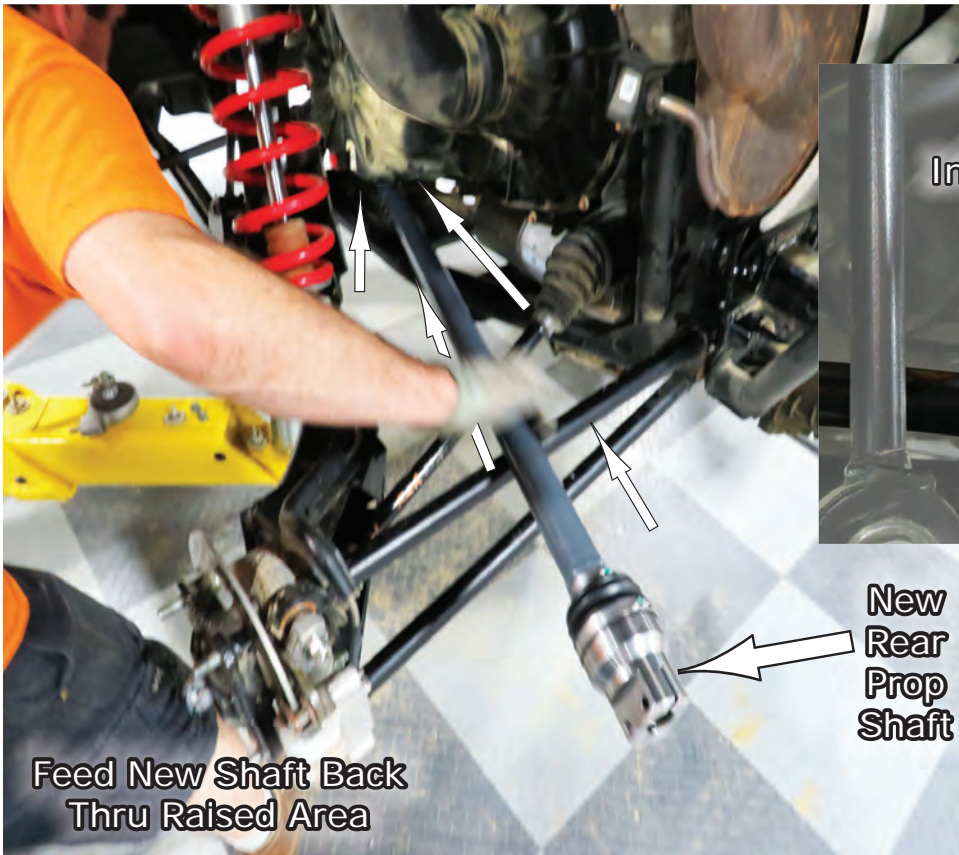
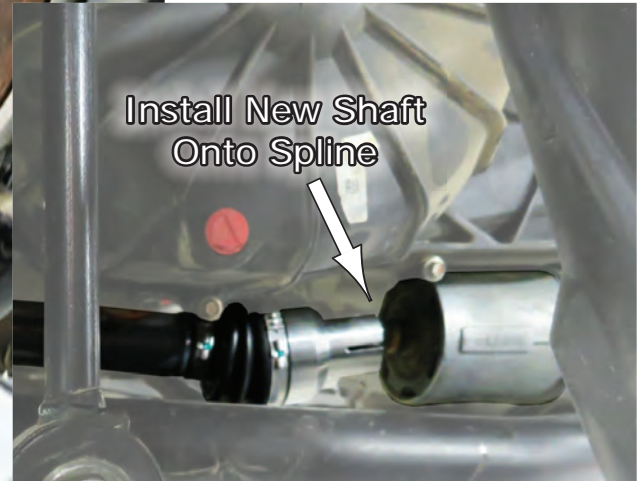

Fig.22a
Fig.22b
22. You will insert the **Rear Prop Shaft** back in the same way you removed the factory one. You will need to pry the engine up and chock it up again as you did before also. **Fig.22a** shows installing your new shaft back in the same way. **Fig.22b** shows shaft going onto the spline.